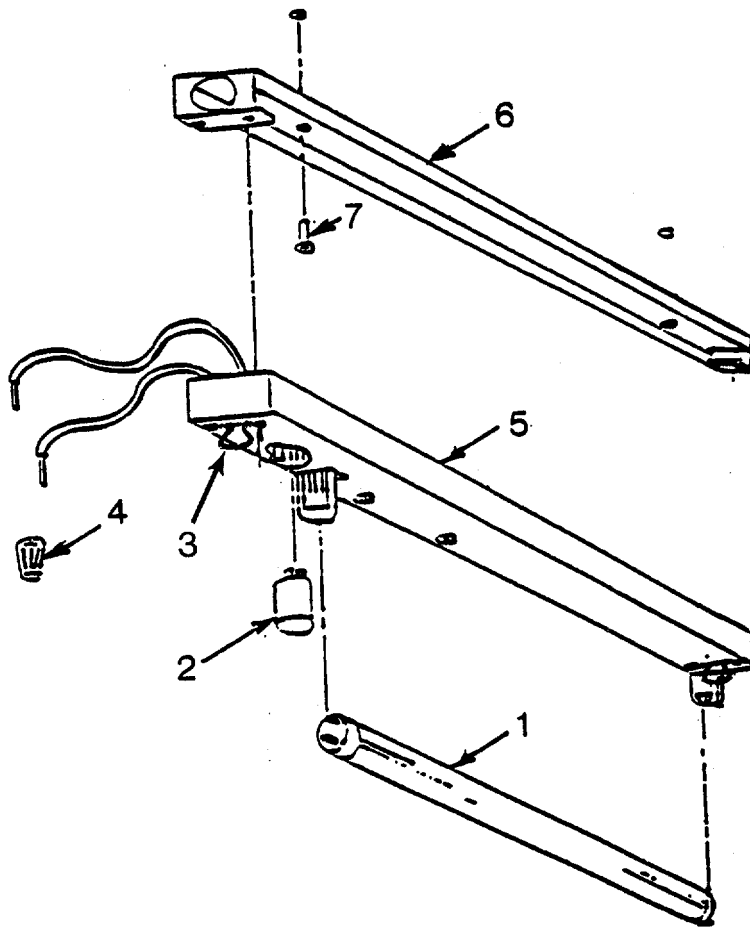

Figure 4-52. Ceiling Lamp Assembly
- a. Inspect. (See Figure 4-52.)
4-41. **CEILING LAMP ASSEMBLY.** - Continuedb. Remove. (See Figure 4-52.)
b. Remove. - Continued (See Figure 4-52.)
4-41. **CEILING LAMP ASSEMBLY.** - Continuedb. Remove. - Continued. (See Figure 4-52).
(10) Position lower half of light fixture (5) to upper half of fixture (6) and rotate pins (3) 90°.
(11) Position starter (2) in socket and carefully rotate clockwise until it locks.
(12) Position lamp tube (1) below socket receptacles with pins vertical. Insert lamp into sockets and twist until pins lock.
(13) Connect power cord (under cabinet lamps only) to curbside wall receptacle.
(14) Set circuit breaker on power distribution panel to ON and test by operation.
c. Repair. (See Figure 4-52.)**NOTE**